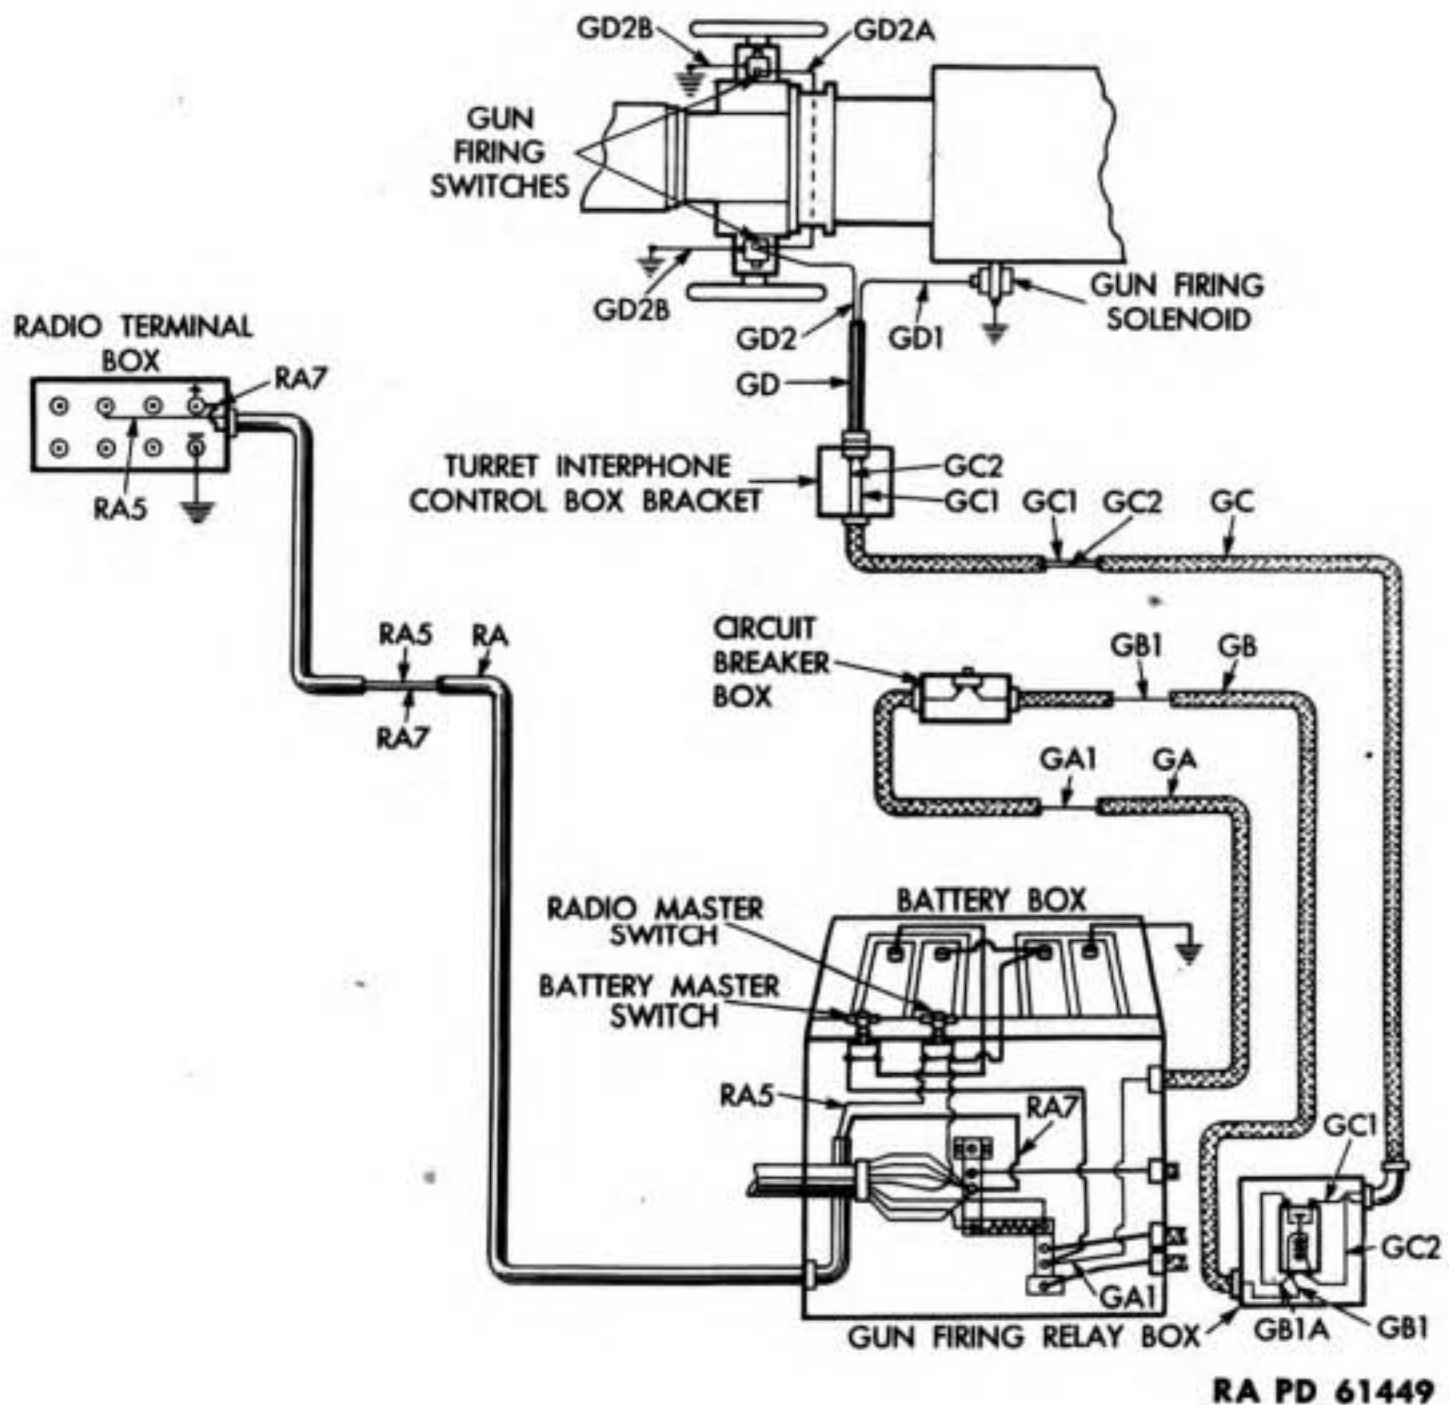
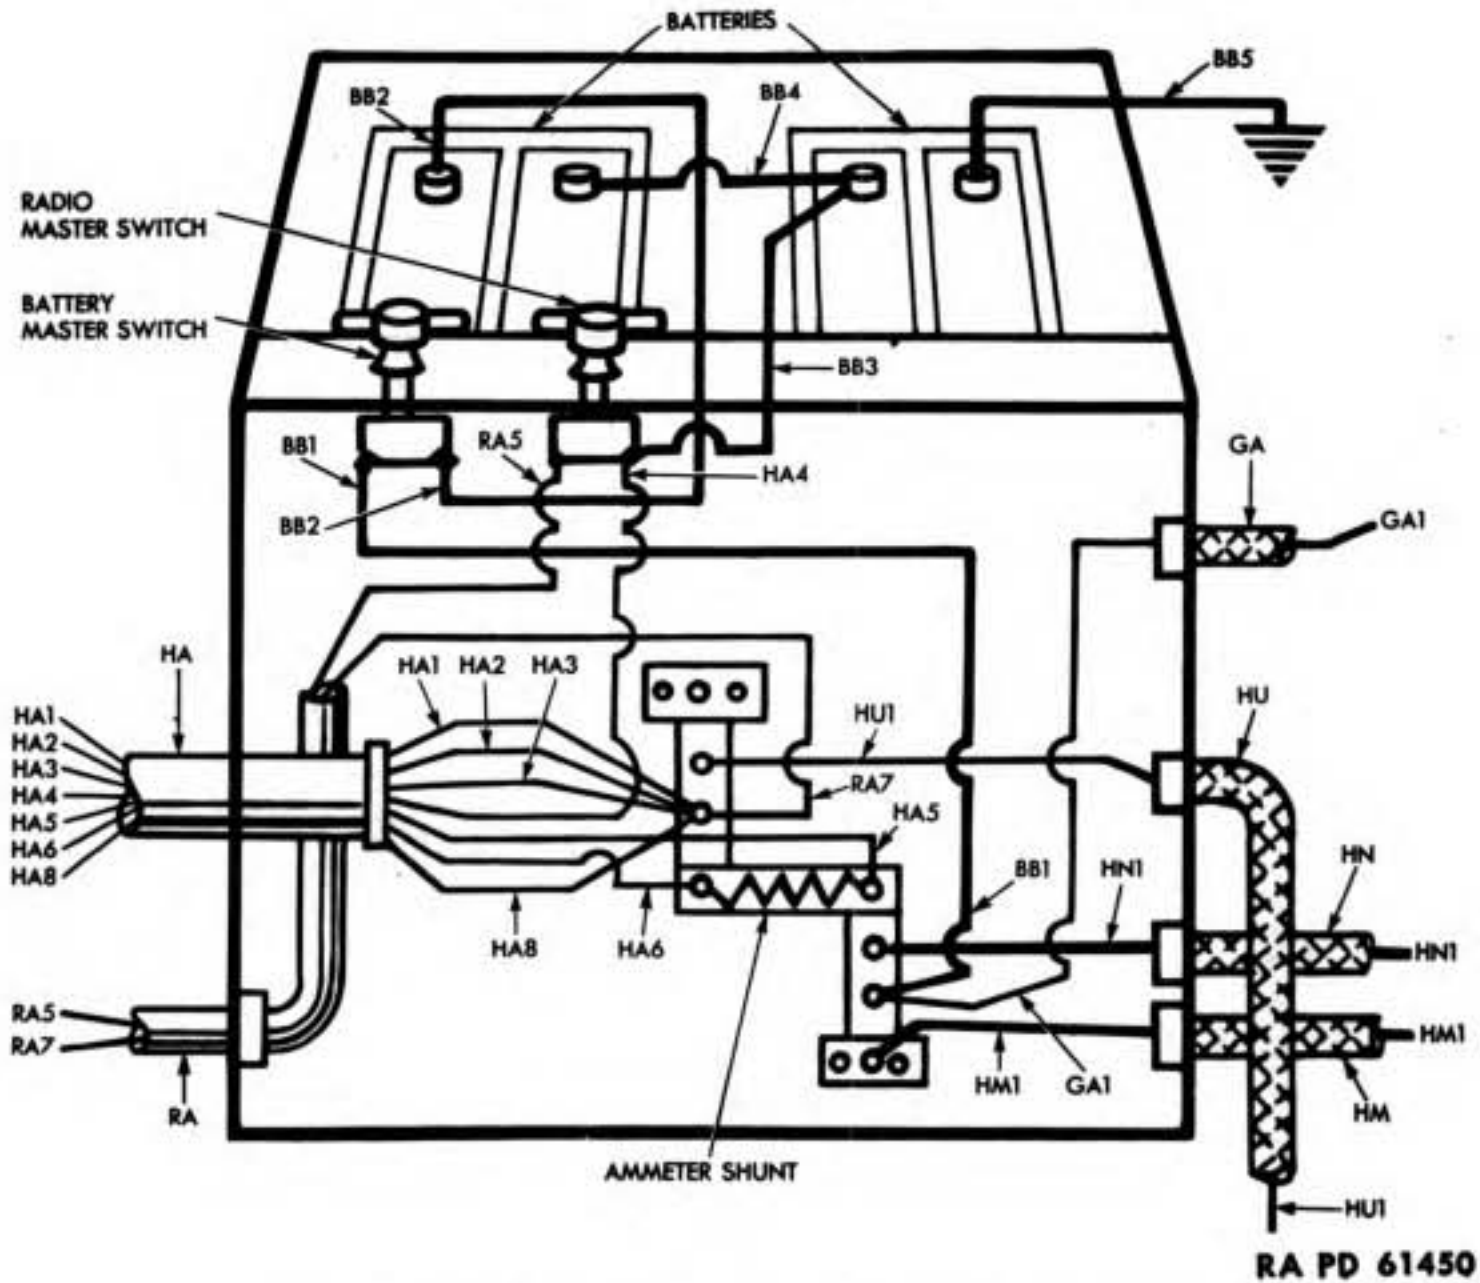
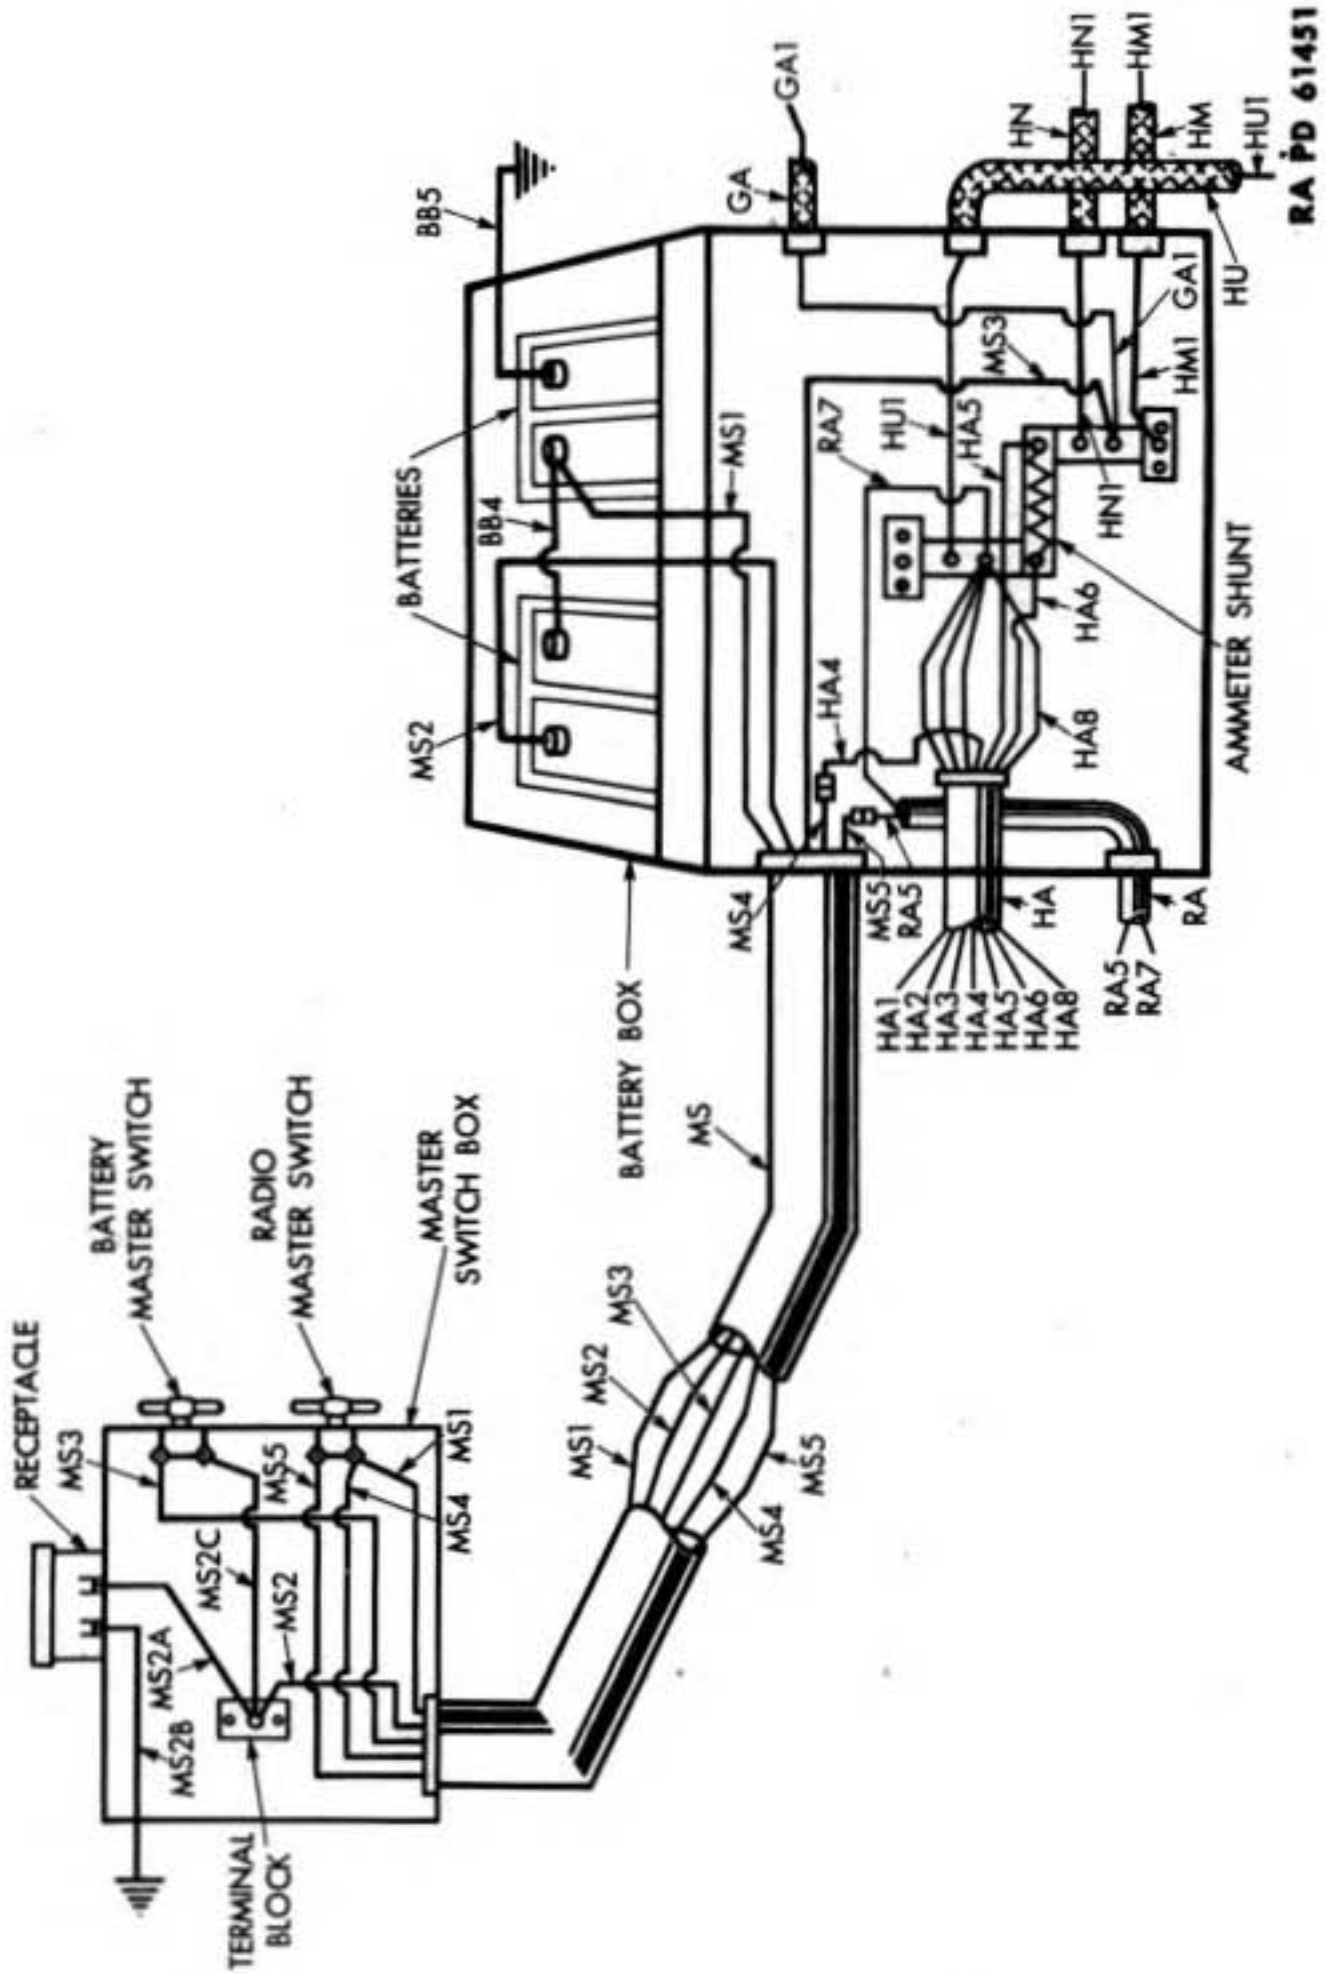

Figure 146—Gun Firing and Radio Circuits Diagram
Figure 147—Battery Box Circuits Diagram
Figure 148—Master Switch Box and Battery Box Circuits Diagram
a. Description. The various electrical units and the wires which comprise the various systems and circuits can be easily identified by reference to the eight wiring diagrams contained in this section. The schematic diagram (fig. 142) shows the approximate location of all the electrical units with the wiring systems or conduits which connect them. The vehicle electrical system is divided into seven major circuits for convenience in locating and identifying the wires and units of each major circuit as follows: Starting and Generating Circuits (fig. 143); Lighting Circuits (fig. 144); Siren, Oil Pressure Switches, Tank Gages and Air Heater Circuits (fig. 145); Gun Firing and Radio Circuits (fig. 146); Battery Box Circuits (fig. 147), and Master Switch Box Circuits (fig. 148).
Radio—R. The individual wires in each system are identified by the key symbol of the system followed by a numeral. The same numeral is used to identify all wires which are a part of the same circuit as they pass through the various conduits, terminal boxes and electrical units. In some few instances, where a lead wire or auxiliary wire is part of the circuit, the lead wire is identified by the same symbol as the wire supplying the current, with a letter added. For example, refer to figure 146. Current flows from the battery to the circuit breaker through wire GA1 and from the circuit breaker to the relay switch through wire GB1. A lead GB1A is connected to the solenoid side of the switch. When the relay closes, current flows to the solenoid through wire GC1 which is connected to wire GD1 at the plug in the interphone bracket.